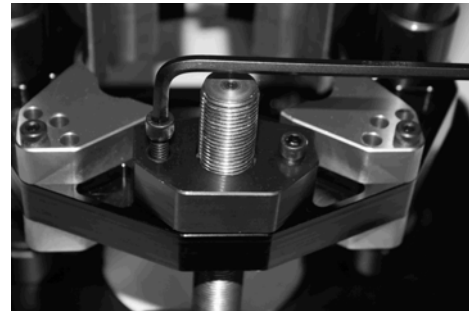

Figure 11
2. Remove the 1/4-20 x 1" Cap Screws from the Carriage Nut Cover (Figure 11) and remove the cover and o-ring (Figure 12)
6. Place back the o-ring and carriage nut cap and with the screws you removed in Step 2 (Figure 11) fasten the carriage nut cap securely